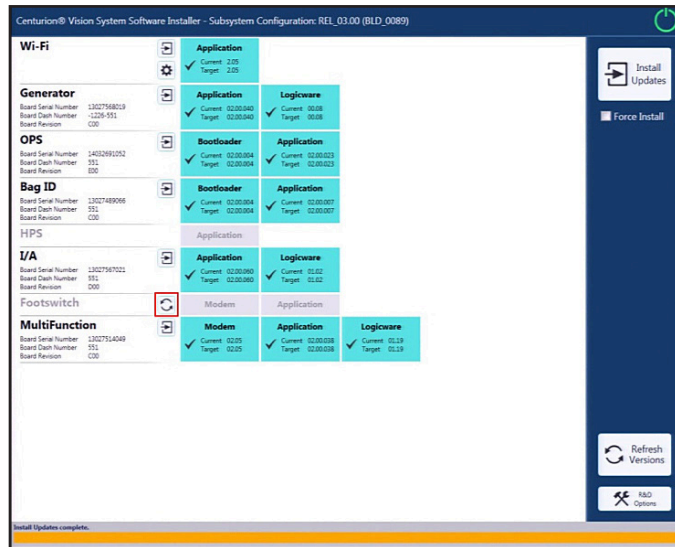

Figure 4-16 Refresh Versions Button on the Software Installer Screen
2.4.9 Select the *Subsystem Refresh Versions Button* in the Footswitch field (shown in Figure 4-16).